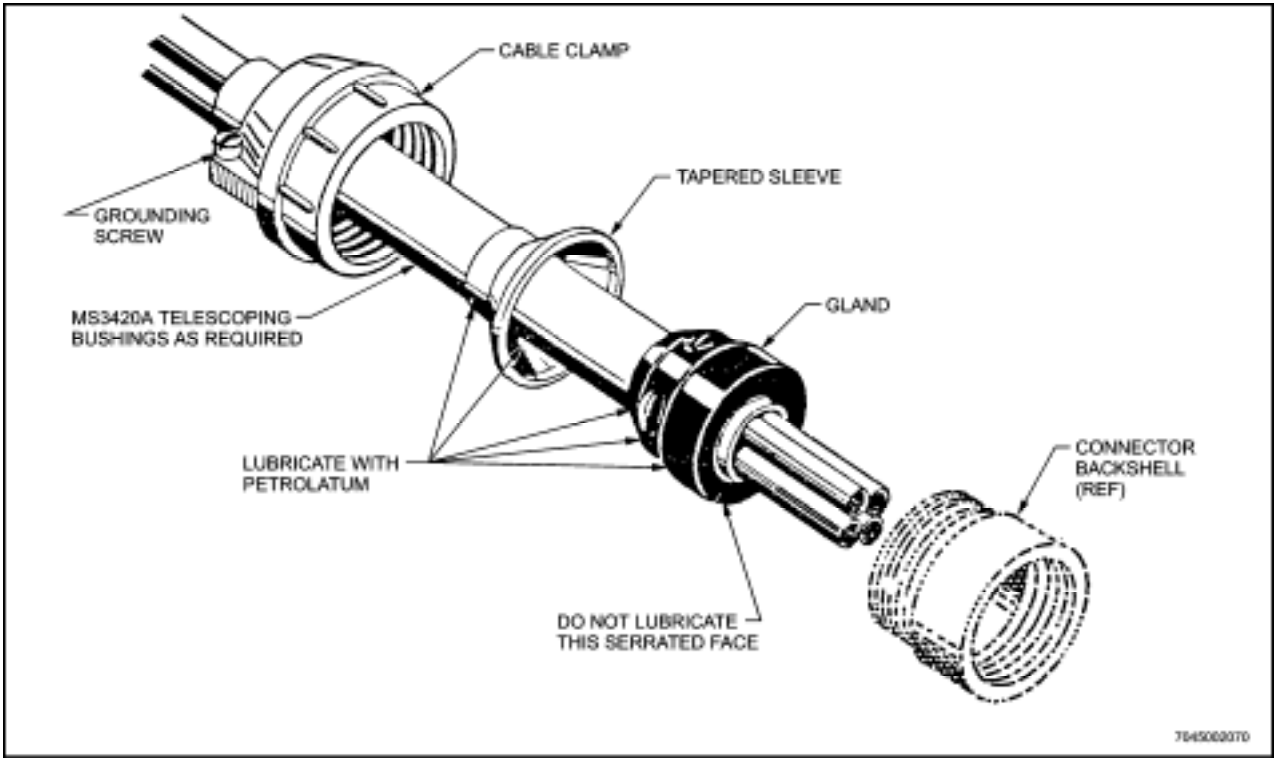

Figure 10-41 Installation of MS3057B Cable Clamp
68. The MS3057B cable clamp is installed as follows (see Figure 10-41):
PROPER LUBRICATION OF GLAND AND TAPERED SLEEVE IS IMPORTANT FOR THIS ASSEMBLY. IN HANDLING PARTS, KEEP THEM CLEAN AND FREE OF DIRT. WASH AWAY DIRT WITH CLEAN DENATURED ETHYL ALCOHOL AND RELUBRICATE WITH PETROLATUM (FEDERAL SPECIFICATION VV-P-236) AS SHOWN IN FIGURE 10-41. DO NOT APPLY PETROLATUM TO INSIDE OF GLAND OR TO SERRATED FACE OF GLAND.